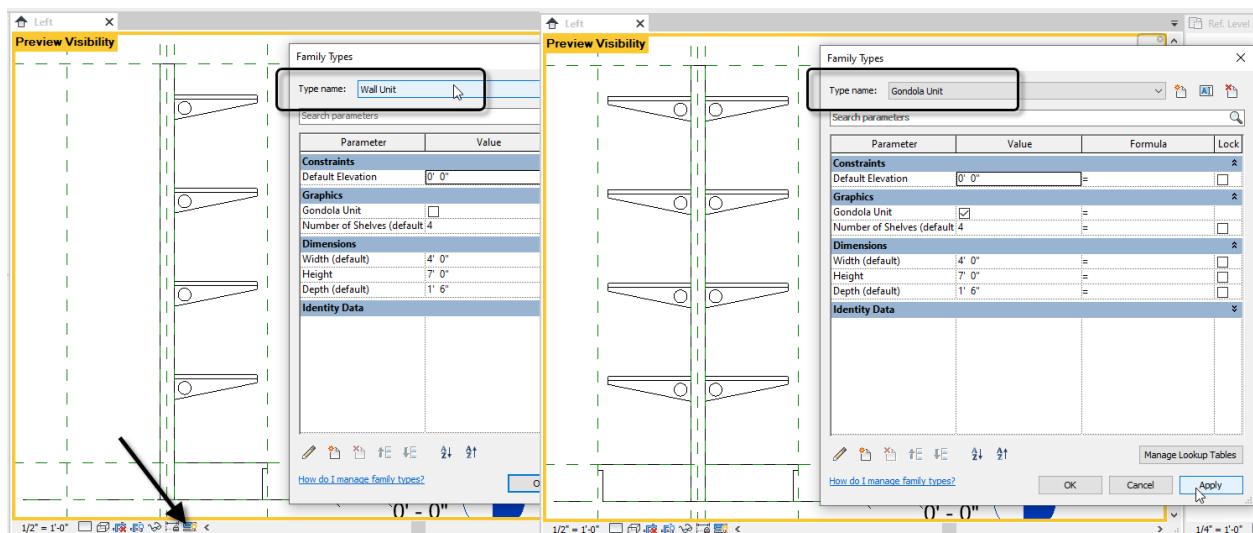

Figure 37
7. Choose the other type and then click Apply (see Figure 37).